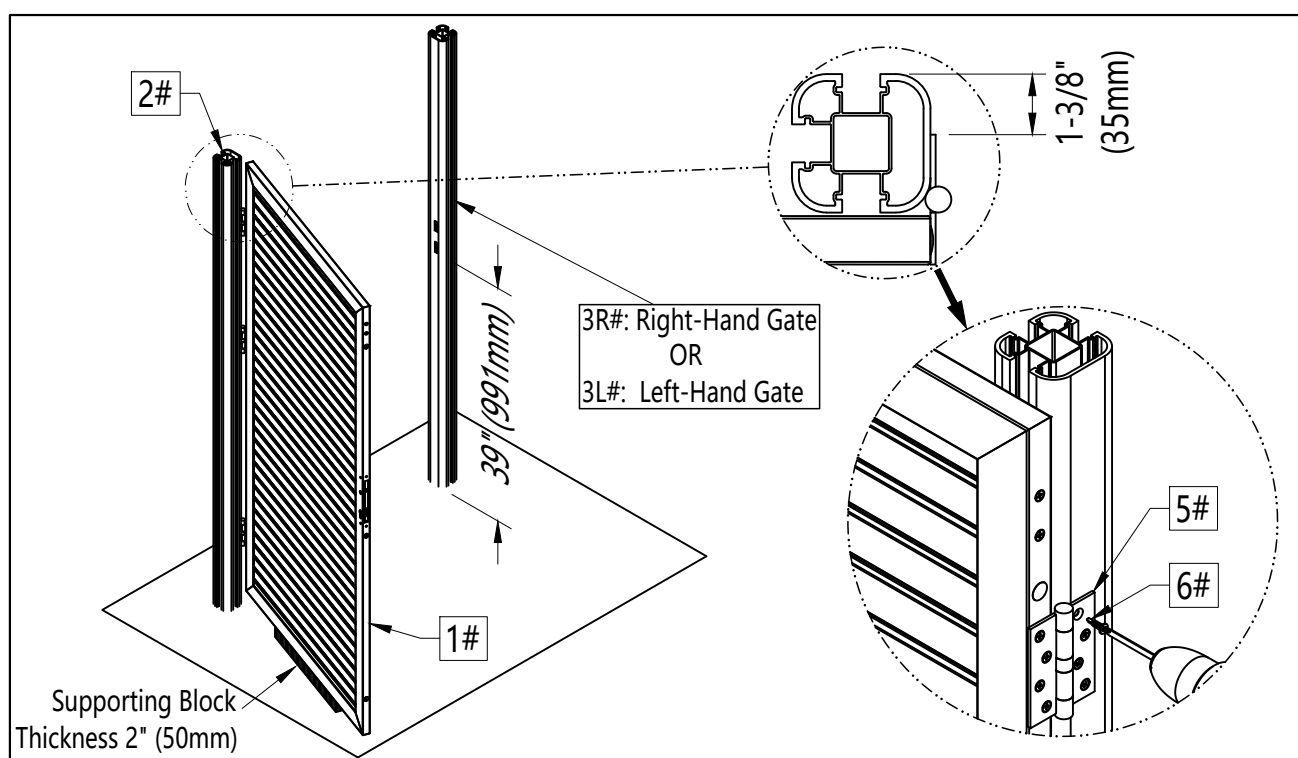

Figure 10
- 10 Put a supporting block under the bottom of the Fence Gate (1#) and adjust the block thickness until the Latch (9#) can go into the Strike Plate (7R#/7L#) lock hole completely. Then fix the fence gate on the posts with Screws (6#), as shown in Figure 10.